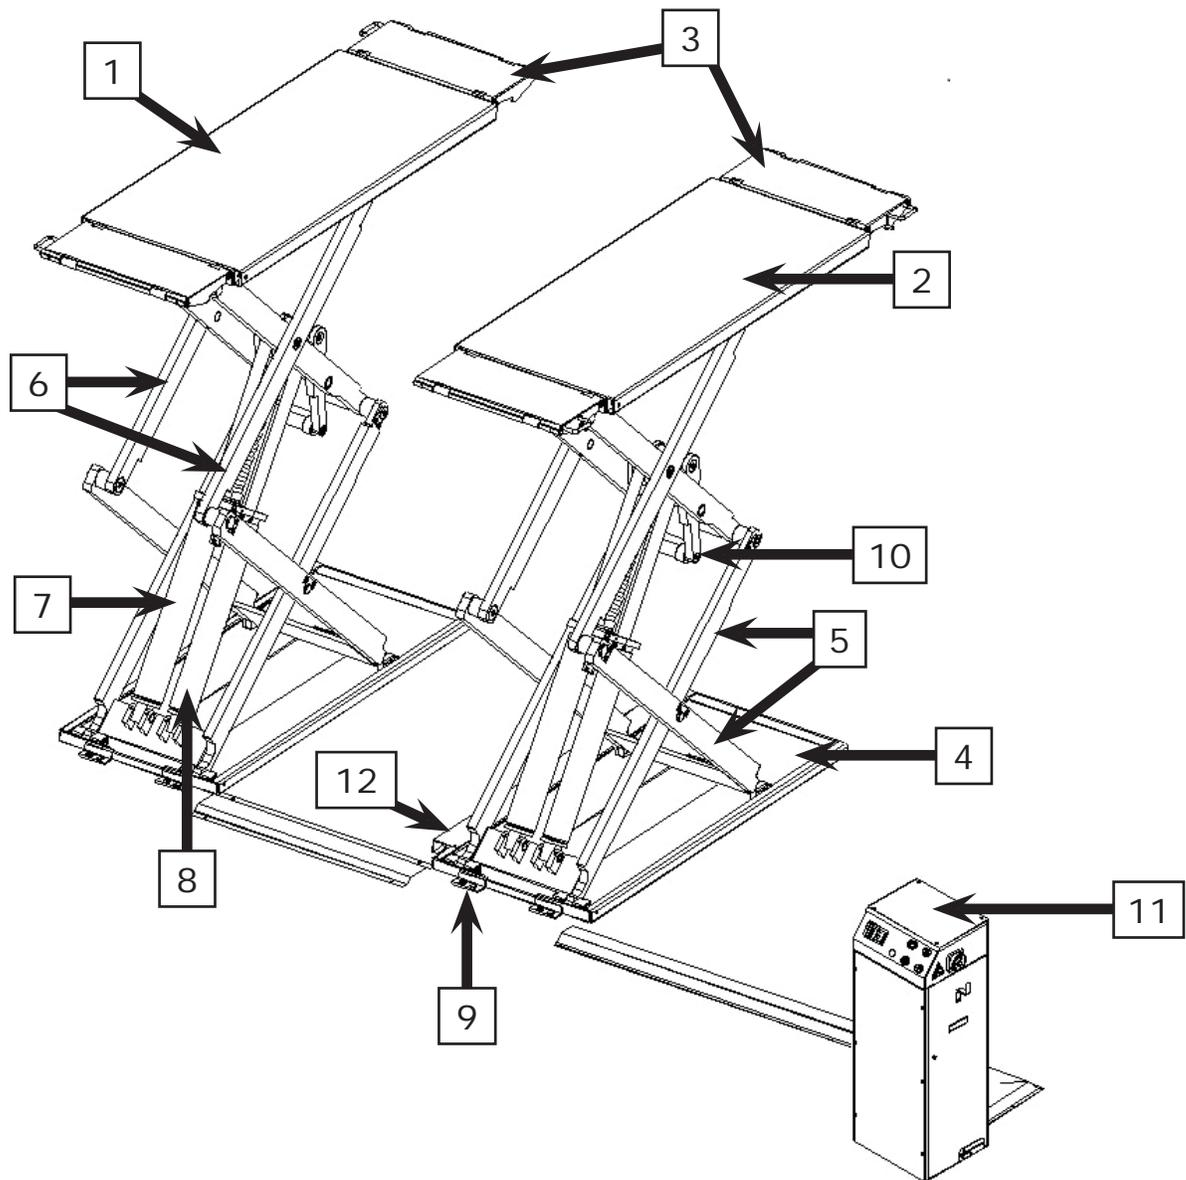

Figure 1 – Lift
4.1 Lift (Ref. Figure 1)
As shown in Figure 1, the lift is composed of two platforms: P1 (1) and P2 (2) each equipped with the drive-on/off ramps (3) which can be locked to the platforms as extensions, anchored to the ground by means of bases (4).